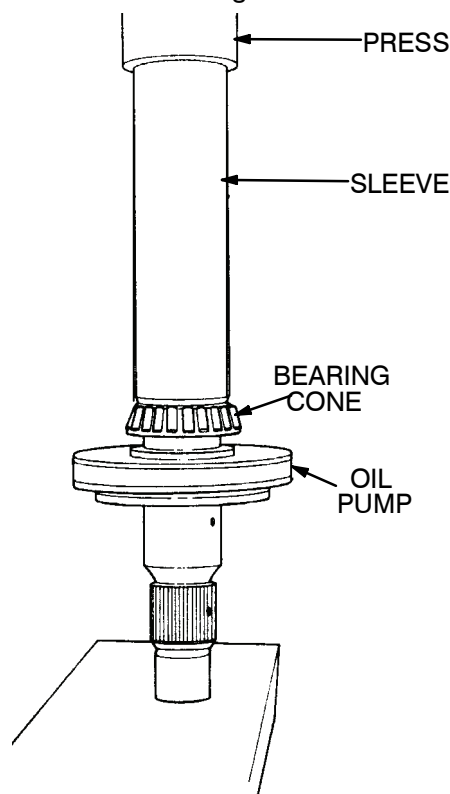

Figure 87.
- (c) Use a press and a sleeve to install the bearing cone on the input shaft. The cone is correctly installed when the bottom of the cone touches the shoulder on the shaft. Figure 87.